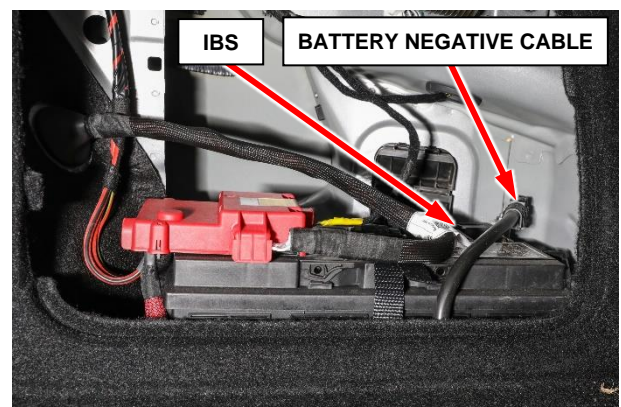

Figure 6 – Fuel Pump Relay
8. Within the battery compartment, press the release button and disconnect the battery negative cable from the post. If equipped with an Intelligent Battery Sensor (IBS), disconnect the IBS connector (Figure 6).
23. Press the release button and connect the battery negative cable to the post. If equipped with an Intelligent Battery Sensor (IBS), connect the IBS connector (Figure 6).